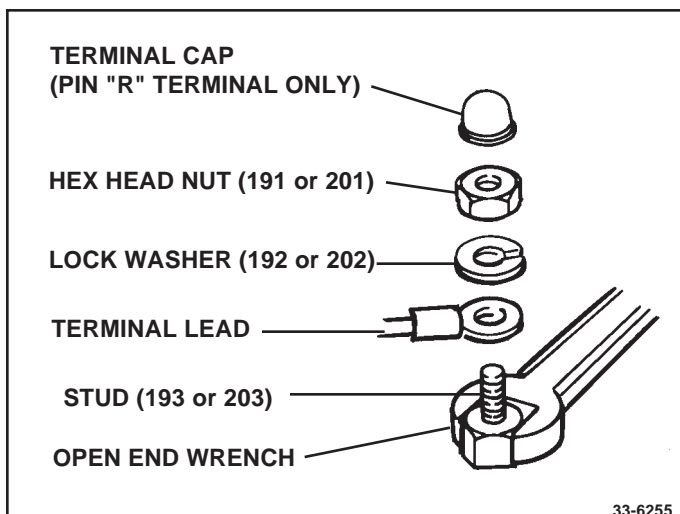

Figure 49. Tighten Threaded "I" or "R" Terminals
- Indicator light lead (114), lockwasher (202) and nut (201) on to indicator light stud (203), labeled "I" on cover plate finger tight, if used.
- Ground screw and lockwasher assembly (223) through ground wire lead (115) into threaded hole in rectifier end housing (1) located on top of 33 SI or on side of 34 SI finger tight.
- Ground screw and lockwasher assembly (223) to 6 N.m (55 lb. in.)
**NOTICE:** Use suitable open end wrench to hold nut (181) hex heads on "R" and "I" terminal studs (193 and 203). (See Fig. 49.)
- Hex head nut (181) on "POS" terminal to 7 N.m (65 lb. in.).
- Hex nuts (191) and (201) or "R" and "I" terminals to 2 N.m (20 lb. in.), if used.